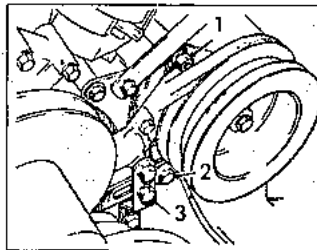

Fig. 11.37 Power steering pump adjustment (Sec 29)
- 2 Slacken the power steering pump pivot bolt and adjuster nut and bolt (Fig. 11.37).